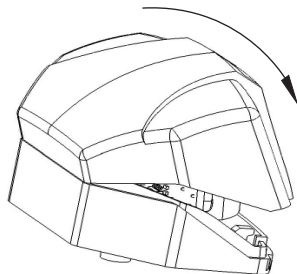

Figure 7
9.8 Install the PCB to the base by inserting it to the guide ridges and latch it from all sides (see Figure 7).